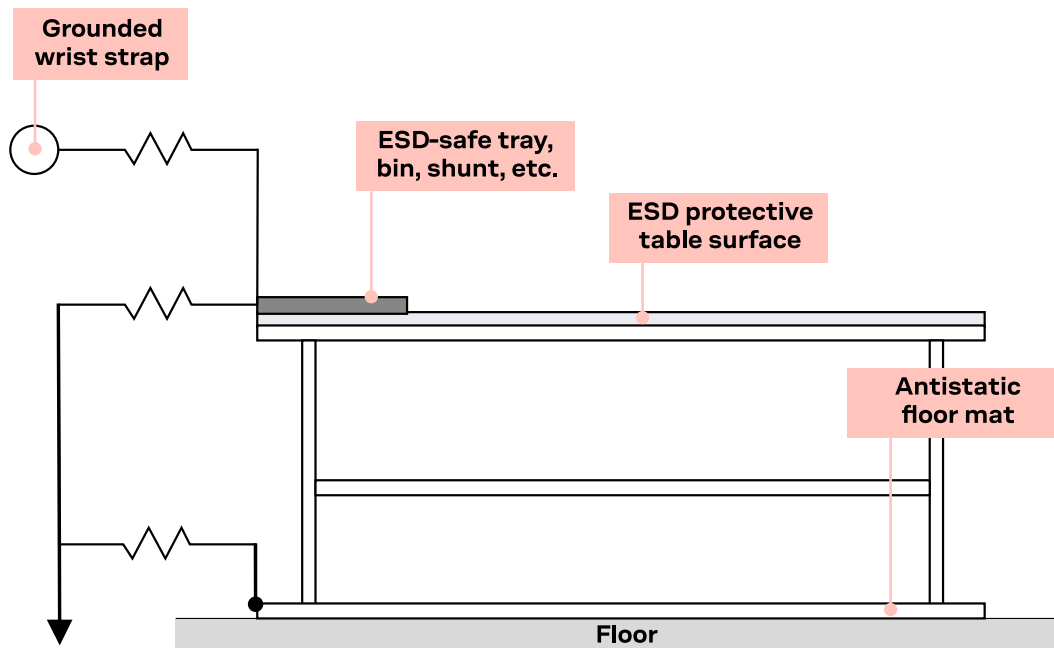

Figure 20: Standard workstation setup for safe handling of ESD-sensitive devices
- Open the package within an ESD-protected area (EPA), as in Figure 20.